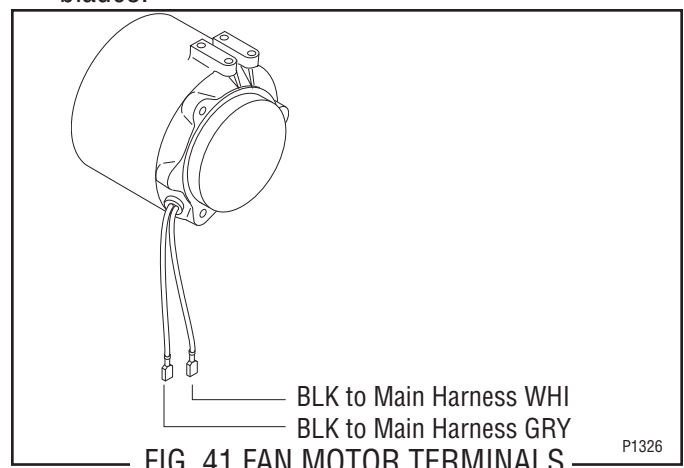

FIG. 41 FAN MOTOR TERMINALS
9. Install silencer (4) on new motor assembly.
10. Install fan (3) on new motor assembly.
11. Install speed nut (2) on new motor assembly.
12. Using three #8-32 thread forming screws secure new motor assembly to shroud/mount (6).
13. Using three #6-32 thread cutting screws secure new motor and shroud/mount to the condenser shroud (7).
14. Using two #8-32 locking screws secure condenser shroud and fan assembly (1) to the chassis base.
15. Using four #8-32 crimp-tite screws secure the condenser shroud and fan assembly (1) to the condenser.
16. Refer to Fig. 41 and reconnect the leads on the new motor to the dispenser wiring harness.